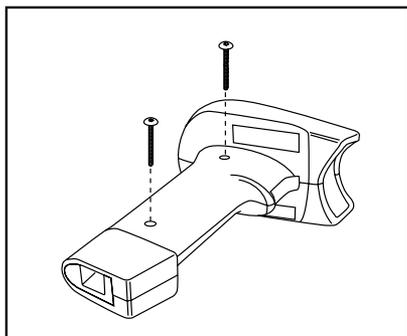

Figure 14. Reinstalling the Handle
5. Reinstall and tighten the two original screws using a torque driver set to 5 in-lb with a T-8 Torx® bit as shown in Figure 14.